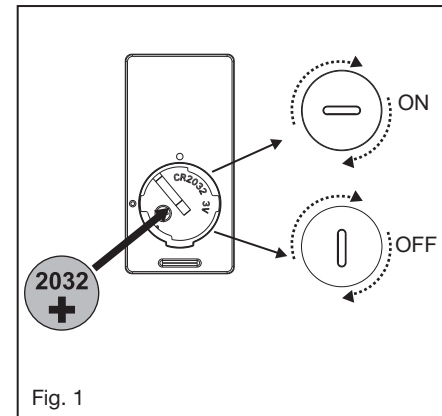

Fig. 1
- 1 Remove ball from downrod by loosening set screw in the side of the ball. Slide ball down and remove cross pin; remove ball. (Fig. 1)
1. Insert the receiver into the ceiling mounting bracket with the flat side of the receiver facing the ceiling. (Fig. 1) For best performance, make sure the Black Antenna and WiFi Antenna, on the end of the receiver, remains extended and not tangled with any of the electrical wires.
- 1 Select a desired location. Use the wall plate to mark the location of the mounting holes. Plastic wall anchors or mounting screws are needed for this application. (Fig. 1)
Remove the panel from the transmitter and then install one 2032 battery (included). You need to use a coin to open or close the battery cover. To prevent damage to transmitter, remove the battery if not use for long periods of time (Fig. 1)